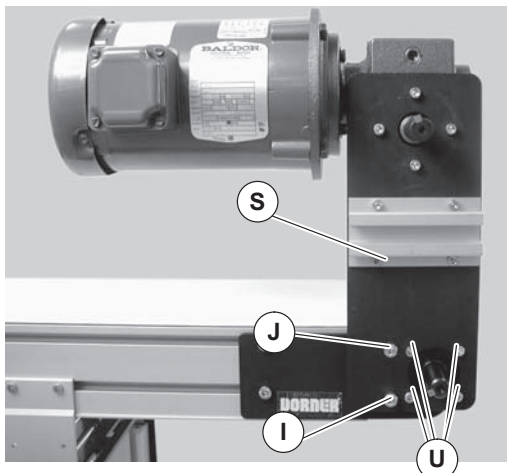

Figure 17
- d. Remove mounting screws (Figure 17, item I, J and U) and remove drive package (S).